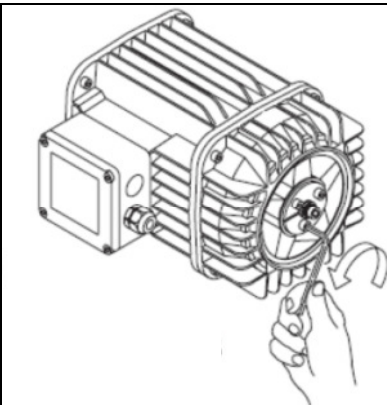

fig.47
4. Completely unscrew the three screws from the ring nut locking the brake shoe (fig. 47);